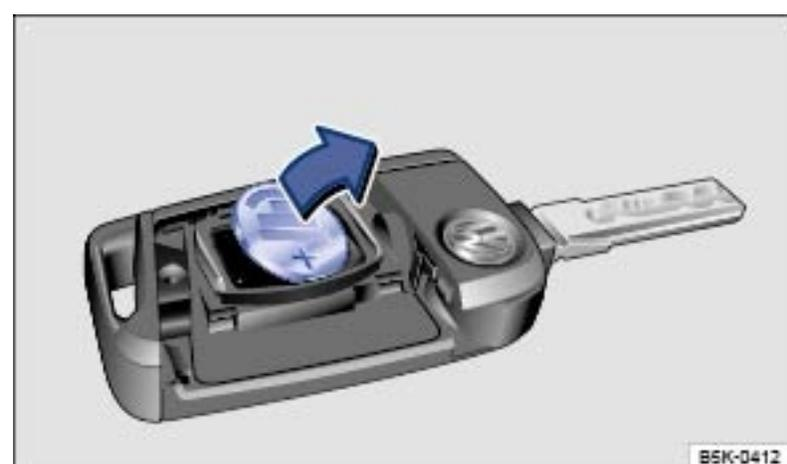

Fig. 25 Remote control vehicle key: Remove old battery.
- ▶ Use a thin object to pry the battery out of the battery compartment → Fig. 25.
- ▶ Position the new battery in as shown → Fig. 25 and press it into the battery compartment (opposite direction of the arrow) →ⓘ.